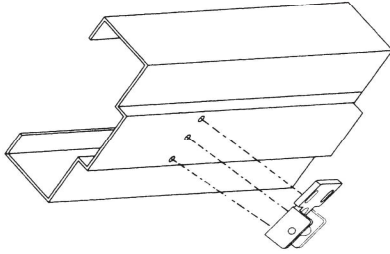
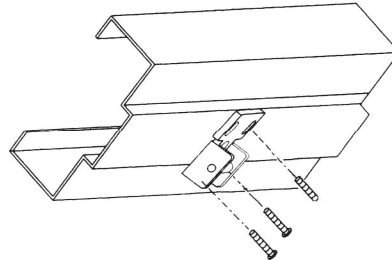

Figure 13
Figure 14
6. Mark mounting holes for top strike on jamb with Strike Template (see Figure 13) then fasten with supplied screws. (See Figure 14.)